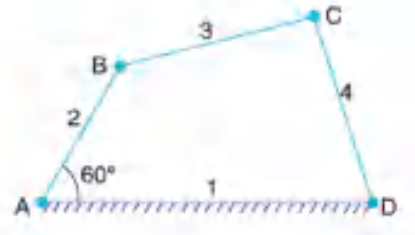

Fig. 2
- b) Locate all the instantaneous centers for a four bar mechanism as shown in Fig. 2. The lengths of various links are: $AD = 500$ mm; $AB = 250$ mm; $BC = CD = 300$ mm. If the link AB rotates at a uniform speed of 100 rpm in the clockwise direction, find the angular velocity of BC . [6M]